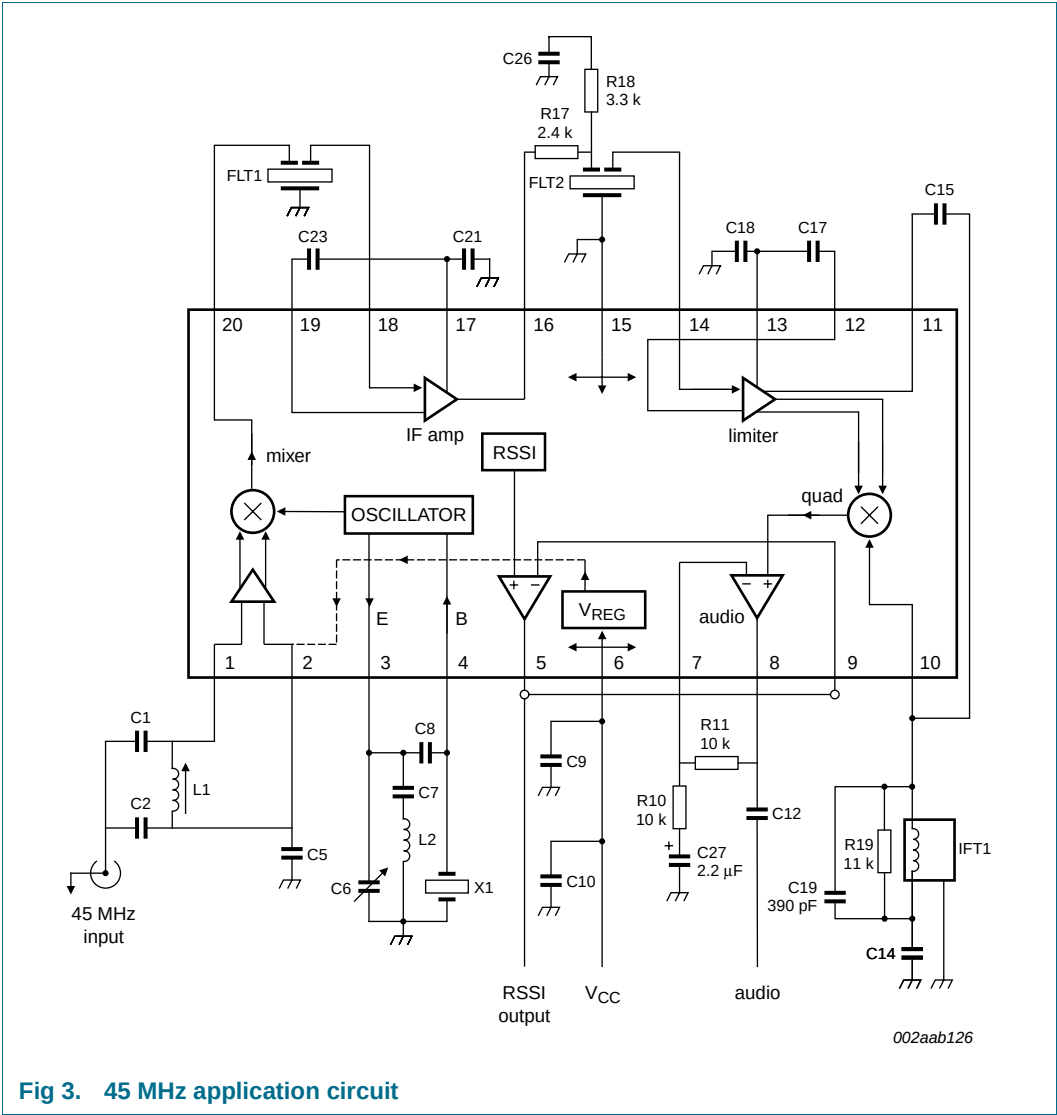

Fig 3. 45 MHz application circuit
- [1] RF frequency = 45 MHz; +14.5 dBV RF input step-up; IF frequency = 455 kHz; $R_{17} = 2.4\text{ k}\Omega$ and $R_{18} = 3.3\text{ k}\Omega$; RF level = -45 dBm; FM modulation = 1 kHz with $\pm 5\text{ kHz}$ peak deviation. Audio output with de-emphasis filter and C-message weighted filter. See Figure 3 "45 MHz application circuit" on page 7. The parameters listed above are tested using automatic test equipment to assure consistent electrical characteristics. The limits do not represent the ultimate performance limits of the device. Use of an optimized RF layout will improve many of the listed parameters.